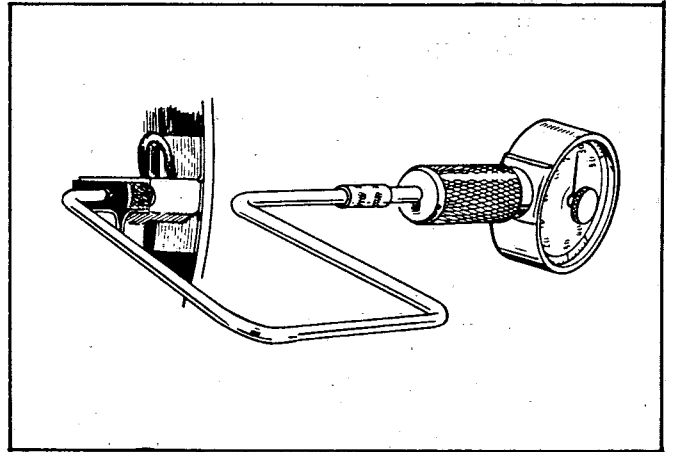

FIGURE 30. TESTING BRUSH SPRING TENSION
9. **Inspection for Brush Spring Tension:** Measure brush spring tension with a tension meter as shown in Figure 30. Push the brush and take a reading just as the brush projects a little from the brushholder. On a new brush the spring tension should be 29 to 38 ounces.